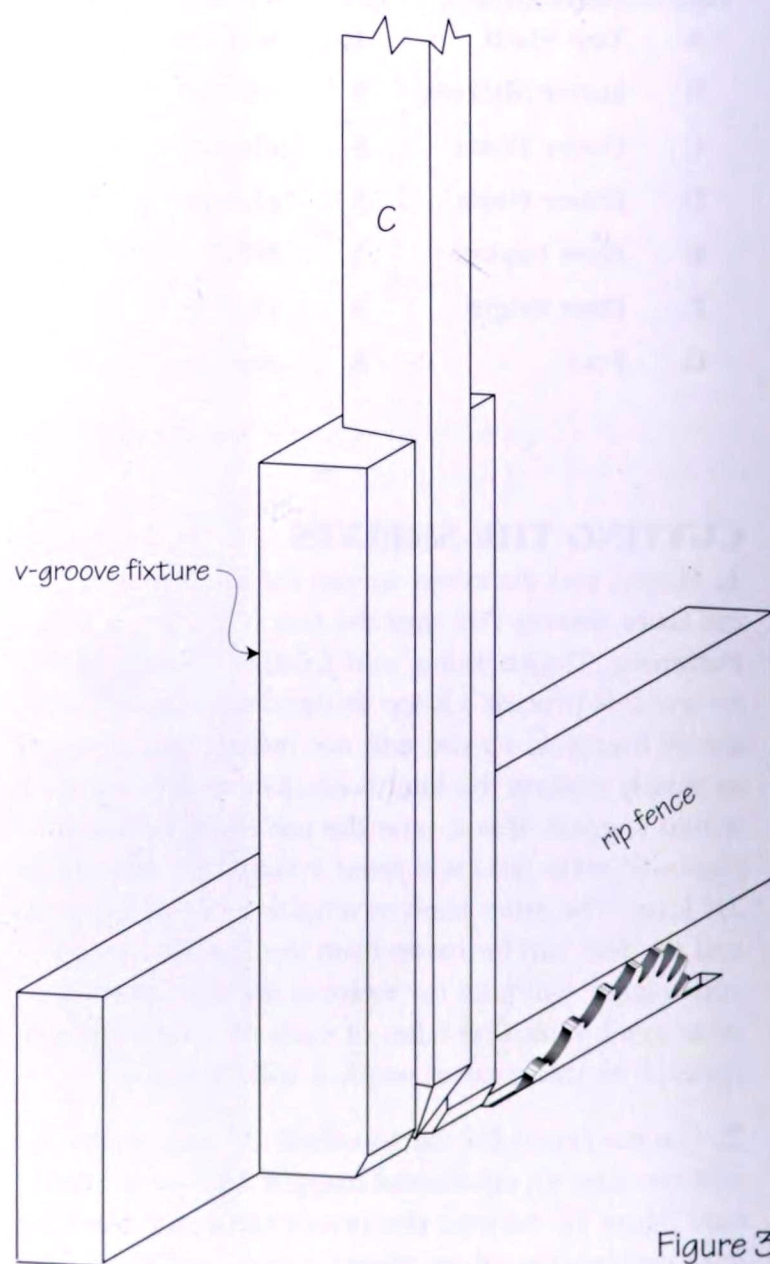

Figure 3
4. The tops of the outer posts (C) end in a pyramid. The extended angle between the side of the post and the face of the pyramid is 60° , and cutting this angle requires a fixture to hold the post steady and correctly angled. Make the fixture from a piece of wood at least $1\frac{1}{4}$ " thick, about 5" wide and maybe 8" long. It must have parallel edges and one end cut square to the edges. Lower the table saw blade, still angled to 30° , until its top tooth is 1" off the table. Set the rip fence, still on the "open" side of the blade, to one-half the width of your fixture from the fence to the near side of the top tooth. Then move the fence $\frac{1}{32}$ " closer to the blade. Rip through the fixture piece twice to make a triangular groove.
5. Refer to figure 3, which represents the fixture ready for use (your blade may tilt the opposite direction). Place the fixture against the fence, groove out, and hold an outer post snugly in the groove. Set the fence so that the near side of the blade at the table is $\frac{3}{8}$ " from the outside face of the post. (You will be cut-